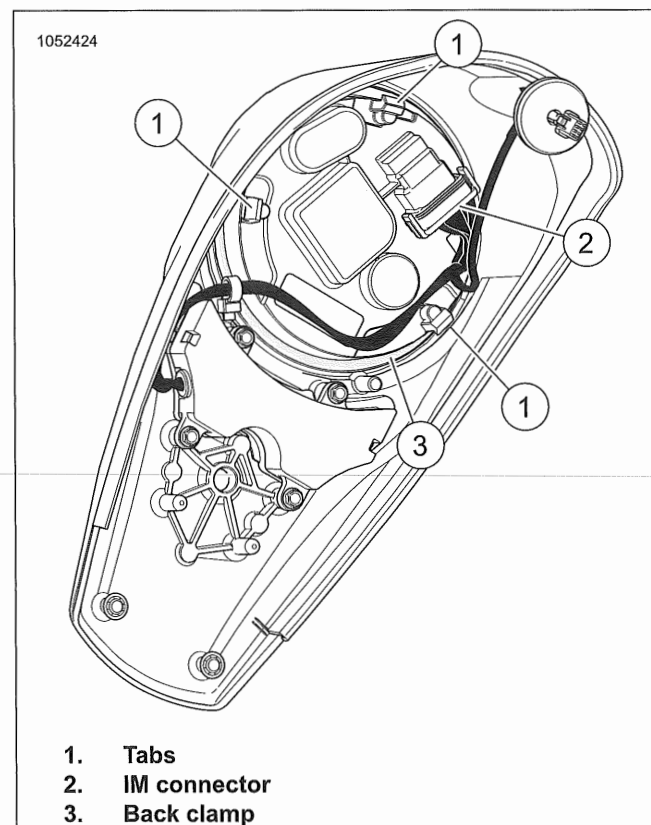

Figure 7-30. Console: FLDE, FLHC, FLHCS, FLSL, FLFB, FLFBS (Typical)
- See Figure 7-30. Disconnect IM connector (2).
- Pry between the tabs (1) and back clamp (3).
3. See Figure 7-30. Install back clamp.
- a. Press on back clamp (3) until three tabs (1) engage on back of IM.
4. Connect IM connector (2).